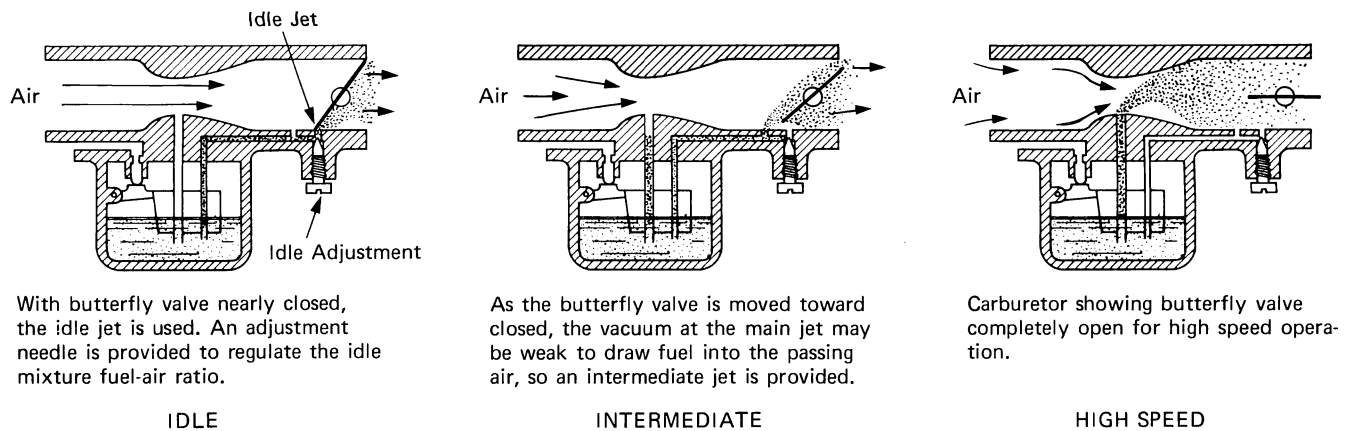

Fig. 15-17 Disc or butterfly throttle valve carburetor circuit
**Butterfly Valve Carburetors.** On some carburetors a disc or butterfly valve is used to control the amount of fuel mixture available to the engine. As the throttle shaft and attached disc is turned, it opens and closes the carburetor bore. The fuel passages are placed a little differently on this type of carburetor and no needle valve is used. Instead, an intermediate range jet and an air fuel mixture passage are used to provide for the engine's midrange demands. Figure 15-17 shows the operation of a butterfly type carburetor.